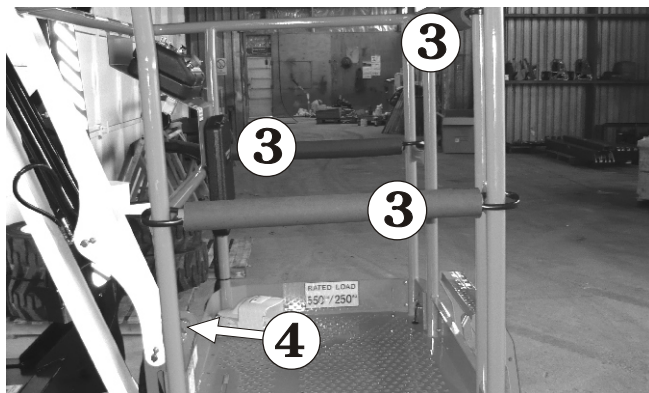

Figure 10.20
3. Enter the platform, close the gravity gate **3**, and attach the lanyard of your safety harness to one (1) of the anchor points **4** (see Figure 10.20).
4. Set the Emergency Stop switch **5** to (ON)